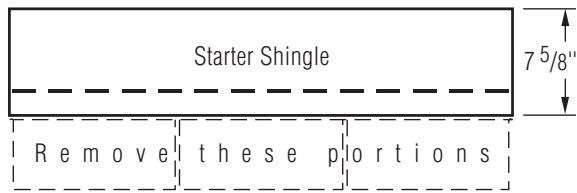

Figure 12-6: Make starter shingles that are  $7\frac{5}{8}$ " in height.
1. Use CertainTeed Swiftstart® Starter, or three-tab self-sealing shingles with the lower tab portions removed. Be sure that the starter shingles are at least  $7\frac{5}{8}$ " in height. (Figure 12-6).